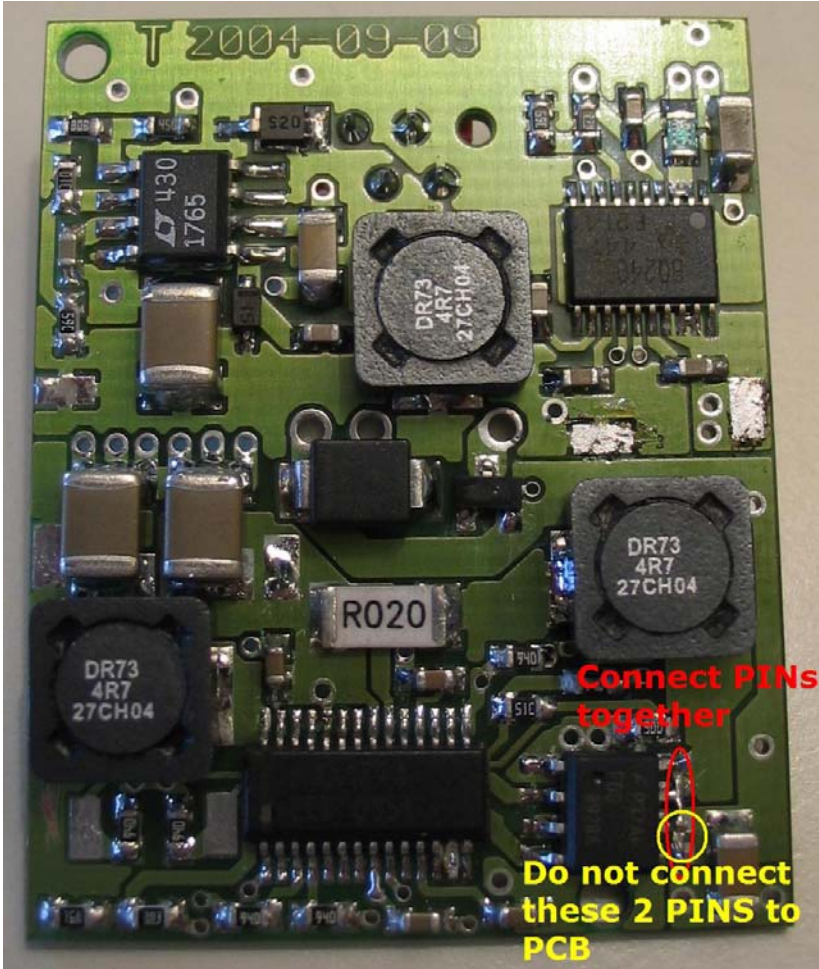

Figure 6: Change PINS of U4 (FDS892A)
- Change PINS of U4 (FDS8928A) as shown in Figure 6.